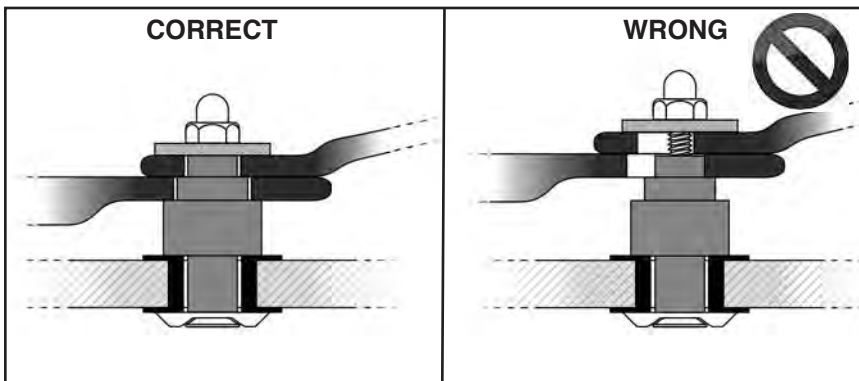

Figure 6
**Outboard and Inboard Bushings must be fully seated in frame to tighten assembly correctly. Figure 6**